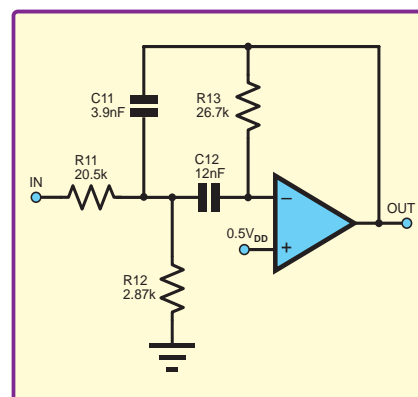
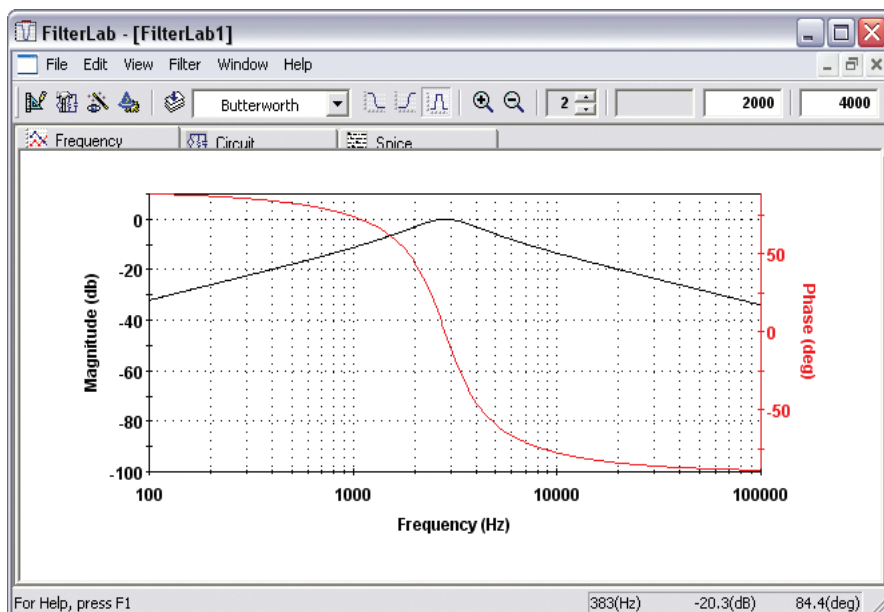

Fig.2. (below). A synthesised 2kHz to 4kHz MFB bandpass filter using Microchip's FilterLab
Fig.3. Screen shot of Microchip's FilterLab software displaying the frequency response plot for Fig.2
*Fig.2. Some stand-offs use mounting bolts at both ends (left), and are much the same as threaded spacers. A variation on this (right) is to have the stand-off bolted to the case with the circuit board just clipped into place*
Mounting bolts are a much better choice with stripboard, although the type of stand-off shown on the left in Fig.2 is a good choice for stripboard. These usually take the form of a plastic outer section with a metal insert that has the screw threads. They differ from threaded spacers in that there are only a few millimetres of screw thread at each end, rather than having the thread running the whole length of the spacer. A threaded spacer could be used, but this type of stand-off cannot be used as a threaded spacer. Due to the limited length of the screw thread, it is essential to use very short (about 5mm or 6mm) mounting bolts with this type of stand-off.
There is another type of stand-off that is a cross between screw fixing and snap-on varieties. One end is fixed to the case using a short bolt, but the circuit board clips in place at the other end. This type of stand-off is shown on the right in Fig.2. This is probably the most popular type, and it works well provided the board will clip into position securely.
An example of an MFB second-order bandpass filter is shown Fig.2. This has  $f_L = 2\text{kHz}$  and  $f_H = 4\text{kHz}$ . This was synthesised using the FilterLab 2.0 software from Microchip. The software is available free from [www.microchip.com/filterlab](http://www.microchip.com/filterlab) (or search for 'filterlab' on the Microchip home page). FilterLab can create filters up to eighth-order, using both MFB and Sallen and Key stages.
FilterLab will plot the filter's response for you. A screenshot of FilterLab displaying the response of the circuit in Fig.2 is shown in Fig.3. Readers will recall that last month we looked at another useful filter synthesis program, Filter Free. It is worth downloading and trying out more than one filter design program as they provide different options for filter design.
For Fig.2, this is roughly  $\text{GBP} = 1 \times 1.4 \times 100 \times 4000$  or 0.56MHz, which is not particularly demanding and is probably within the specification of the popular 741 op amp. However, it does not take much to make this requirement more difficult though. For example, shifting the 2kHz bandwidth up to 8kHz to 10kHz to give a Q of 4.47, we get  $\text{GBP} = 1 \times 4.47 \times 100 \times 10000$  or 4.47MHz, which is beyond the limit of a few common general purpose op amps, although easily covered by faster devices.
Page 55, Fig.2. Transistor TR1 should be a type BFY51, not as shown.